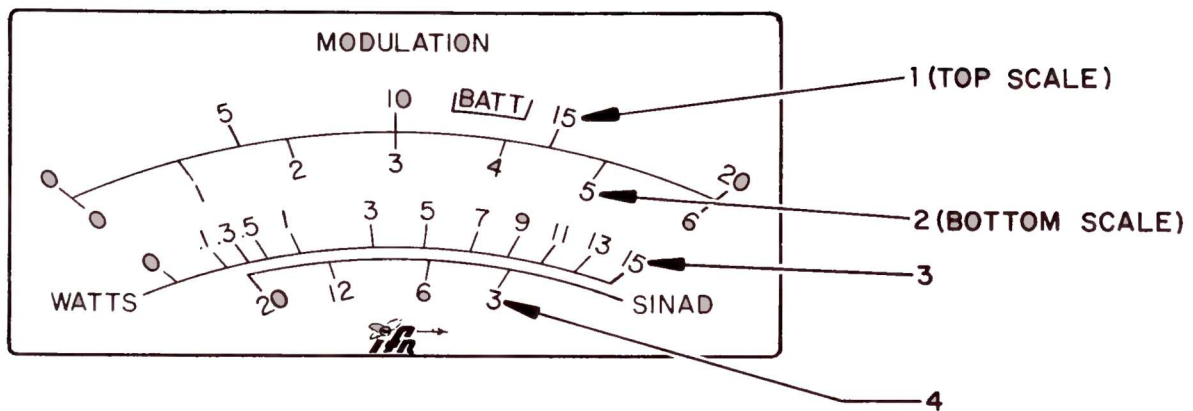

Figure 3-2 Modulation Meter Scales
Provides a visual display of modulation levels, RF power levels (peak and average), relative signal strength, battery test voltage, distortion and SINAD when selected by MODULATION Meter Control (4). (See Figure 3-2.)
Selects input source for MODULATION Meter (1) as shown in Table 3-2 (Reference Figure 3-2).